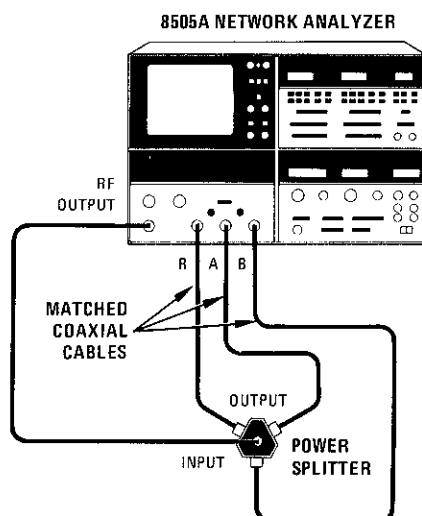

Figure A5-39. A3A8 Polar Converter Test Setup
- b. Connect equipment as shown in Figure A5-39.